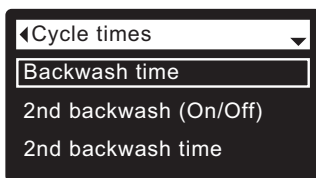

FIG. 78
5. Press the SELECT (O) button to display the Cycle times menu (See Figure 78).
9. Press the SELECT (O) button. The display will go back to the Cycle times menu (Figure 78).